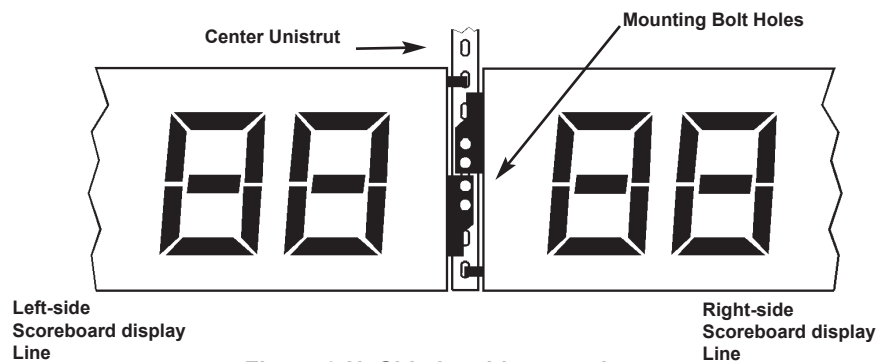

Figure 3-N: Side-by-side mounting
- 5) Follow steps 1-3 for this scoreboard display line, but note how the scoreboard display line's mounting tabs align on the center unistrut as shown in Figure 3-N.